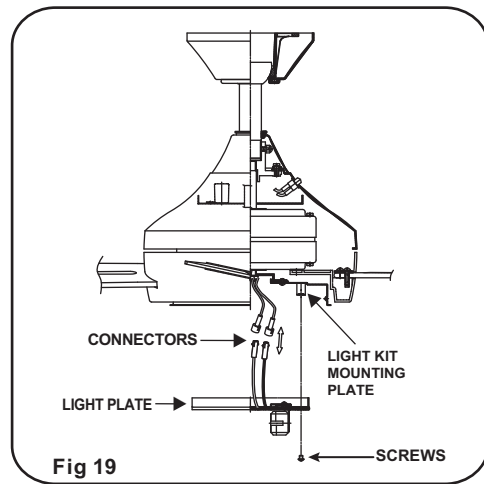

Fig 19
2. Raise and hold the light plate close to the light kit mounting plate and proceed to do the wire connections. Connect the white wire connectors from the light plate and fan, follow the same procedure with the black wire connectors. (Fig. 19)
3. Place the key holes from the light plate over the 2 screws previously loosened from the light kit Mounting Plate, turn light plate until it locks in place at the narrow section of the key holes. Secure by tightening the 2 screws previously loosened and the one previously removed. (Fig. 19).